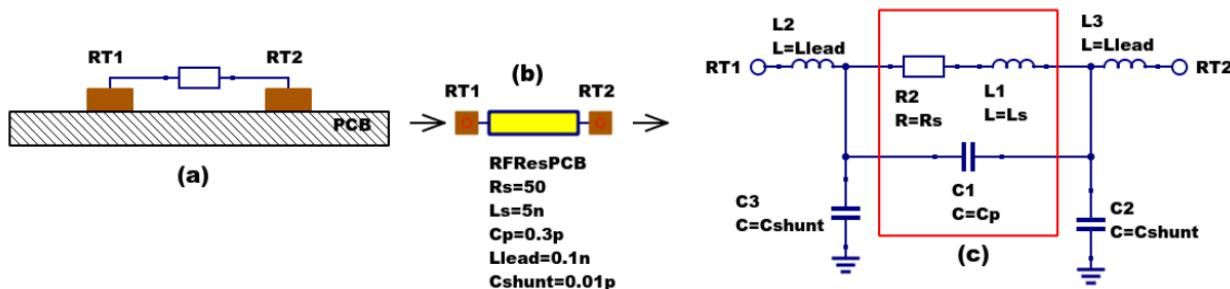

Figure 2 - PCB mounted resistor: (a) axial component mounting, (b) Qucs symbol and (c) equivalent circuit model.
The schematic symbol, I/V equation and parameters of the Qucs linear resistor model are shown in Figure 1. In contrast to this model Figure 2 illustrates the structure of a printed circuit board (PCB) mounted metal film (MF) axial RF resistor (a), its Qucs schematic symbol (b) and its equivalent circuit model (c). A thin film surface mounted (SMD) resistor can also be represented by the model shown in Figure 2 (c).
At signal frequencies where the largest dimension of an axial or SMD resistor is less than approximately 20 times the smallest signal wavelength a resistor can be modelled by a lumped passive circuit consisting of a resistor **Rs** in series with a small inductance **Ls** with the combination shunted by parasitic capacitor **Cp**. In Figure 2 **Rs** is the nominal value of resistor at its parameter extraction temperature **Tnom**, **Ls** represents the inductance associated with **Rs** where the value of **Ls** is largely determined by the trimming method employed during component manufacture to set the value of **Rs** to a specified tolerance. Similarly, capacitor **Cp** models a parasitic capacitance associated with **Rs** where the value of **Cp** is a function of the physical size of **Rs**. At RF frequencies it is important, for accurate operation, to add lead parasitic elements to the intrinsic equivalent circuit model shown within the red box draw in Figure 2. In Figure 2 **Llead** and **Cshunt** represent resistor series lead inductance and shunt capacitance to ground respectively.
A typical set of model parameters for a 51Ω 5 % MF axial resistor are (1) **Ls = 8nH**, **Cp = 1pF**, **Llead = 1nH** and **Cshunt = 0.1pF**. Illustrated in Figure 3 is a basic S parameter test bench circuit for measuring the S parameters of an RF resistor over a frequency range 1 MHz to 1.3 GHz. This example also demonstrates how the real and imaginary parts of a resistor model impedance can be extracted from S parameter simulation data. The graphs in Figure 3 clearly demonstrate that the impedance of the typical MF RF resistor described in previous text and modelled by the equivalent circuit shown in Figure 2 is a strong function of frequency at higher frequencies in the band 1 MHz to 1.3 GHZ.
Figure 8 - Qucs device model parameter extraction system applied to a nominal $47\ \Omega$ resistor represented by the subcircuit model illustrated in Figure 2 (c). Fixed model parameter values: $R_s = R_m = 47.3\ \Omega$, $C_{shunt} = 0.08\text{pF}$; Optimised values: $L_s = L = 10.43\text{nH}$, $L_{lead} = LL = 1.47\text{nH}$, $C_p = C = 0.69\text{pF}$. To reduce simulation time the ASCO cost variance was set to $1e-3$. The ASCO method was set to DE/best/1/exp.
Figure 13 - Qucs device model parameter extraction system applied to a nominal $100\ \Omega$ SMD resistor represented by the subcircuit model illustrated in Figure 2 (c).
Listed below is an example Verilog-A code model for the RF resistor model introduced in Figure 2 (c). Due to the limitations of the Verilog-A language subset provided by version 2.3.4 of the "Analogue Device Model Synthesizer" (ADMS)⁴ inductors **Ls** and **Llead** are modelled by gyrators and capacitors with values identical to **Ls** or **Llead**.